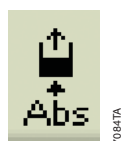

Figure 27. Detection Mode icon on the Instrument Status bar indicating the Absorbance Module is detected.
9. To ensure the instrument detects the newly installed module, verify the “Abs” icon appears on the Instrument Status bar on the “Instrument Control” screen. See Figure 27.